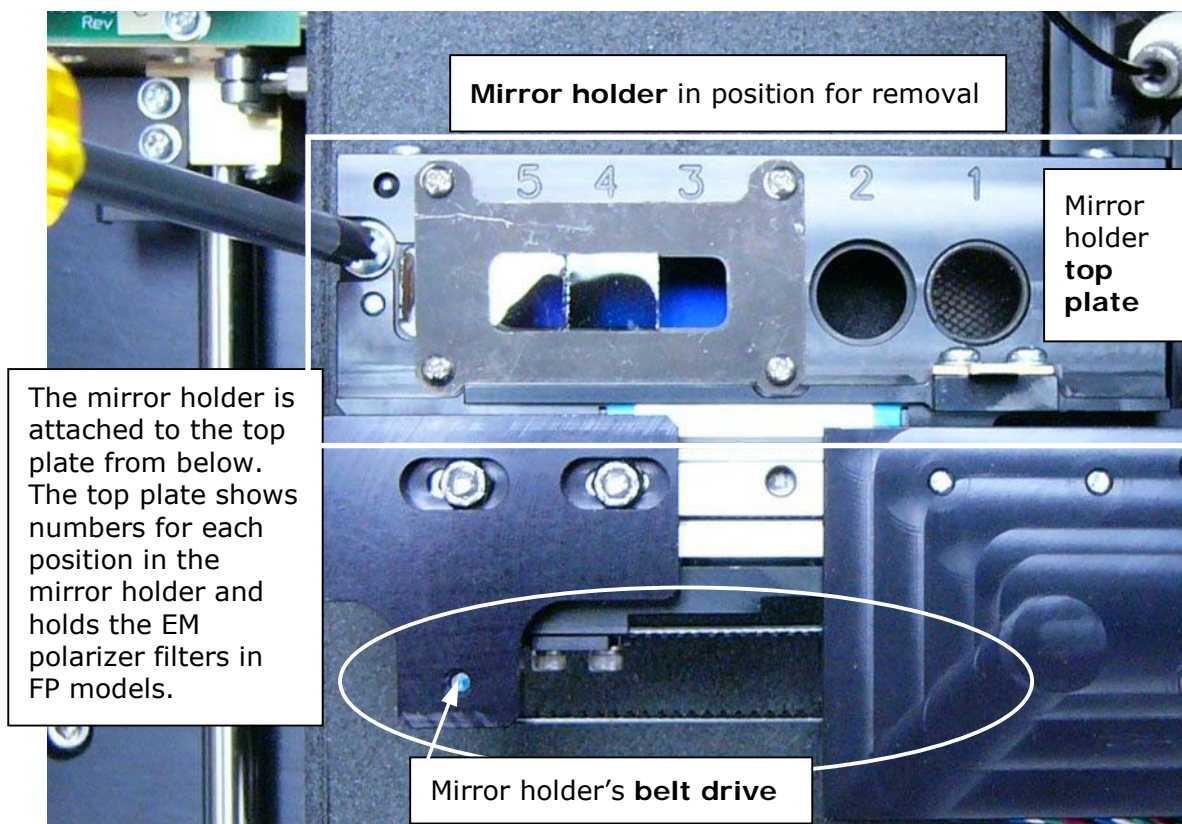

Figure 29: Mirror holder positioned for removal
3. When the mirror holder is fully exposed, carefully remove the two screws and washers on top (see **Figure 29**), and set them aside. The holder will continue to be held in place by its magnetized frame.
2. Inside the reader, put the mirror holder underneath its top plate (see **Figure 29**). The holder's alignment pins will help guide it into place and because it is magnetized the holder will stay in place.